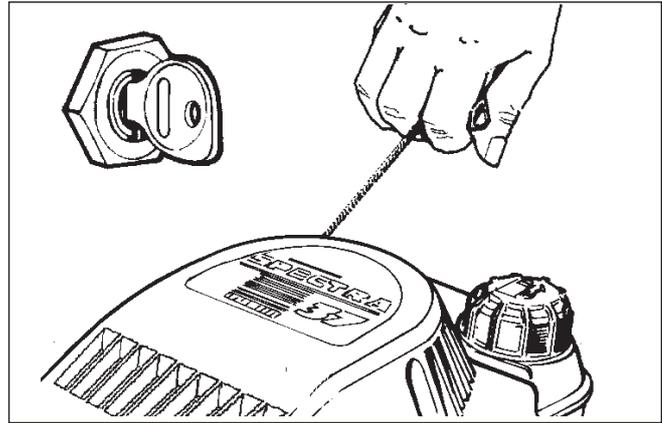

Fig. 2-2
- Pull starter handle (Fig 2-2) with a quick firm action. Allow the rope to recoil back into its housing whilst retaining grip on handle.
- Grasp starter handle (Fig 2-2) and slowly pull rope out until a slight resistance is felt. Let rope rewind slowly. Then pull rope with a rapid full arm stroke.
**NOTA** - If engine fails to start after three (3) pulls, repeat instructions 'b', 'c' and 'd'.
### ELECTRIC STARTER ( Fig 2-2)